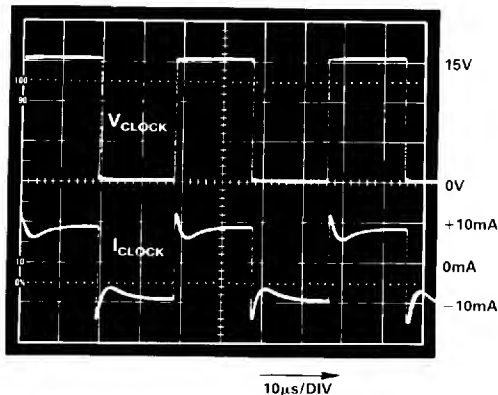

Figure 23. Typical Clock Voltage and Current Waveforms for a Single AD208 with No Load on its Isolated Power Supply
**Clock Driver Power Considerations.** In selecting and/or designing a clock driver for the AD208 isolation amplifier, it should be noted that the AD208 presents a reactive load to the clock driver. Consequently, both the average and peak drive currents to the AD208 clock input must be considered. Figures 23 and 24 illustrate the typical clock driver input voltage and current waveforms for a single AD208 with its isolated power supplies unloaded and fully loaded.